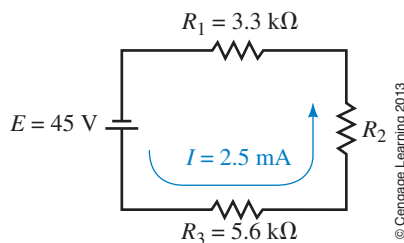

FIGURE 5–58
15. For the circuit of Figure 5–59, find the following quantities: